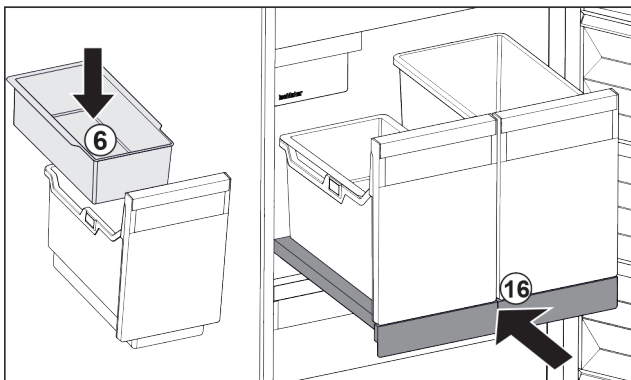

Fig. 96
- Insert hang-on tray Fig. 96 (6) for ice cubes.
- Slide in the pull-out board with (IceTower) container. Fig. 96 (16)